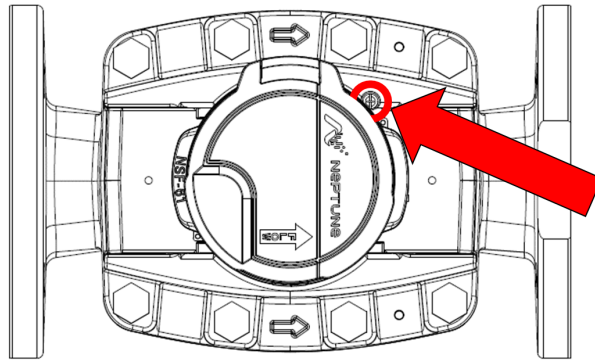

Figure 5 – Bleed Screw Location
9. Turn the bleed screw until you can feel water pushing it up and out from the meter maincase. The screw is captured and will not eject from the meter. For bleed screw location and details, see Figure 5 in Chapter 3.